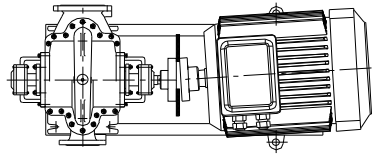

Fig. 4a. Angle error in horizontal plane and to settle
• Alignment errors can be either on vertical plane or horizontal plane. On vertical plane alignment is corrected by inserting shims under the pump or motor foot, and on horizontal plane alignment is corrected by sliding the pump and/or motor horizontally sideways by using the gaps at mounting holes. Fig. 4a, 4b, 4c, 4d show alignment of coupling step by step.